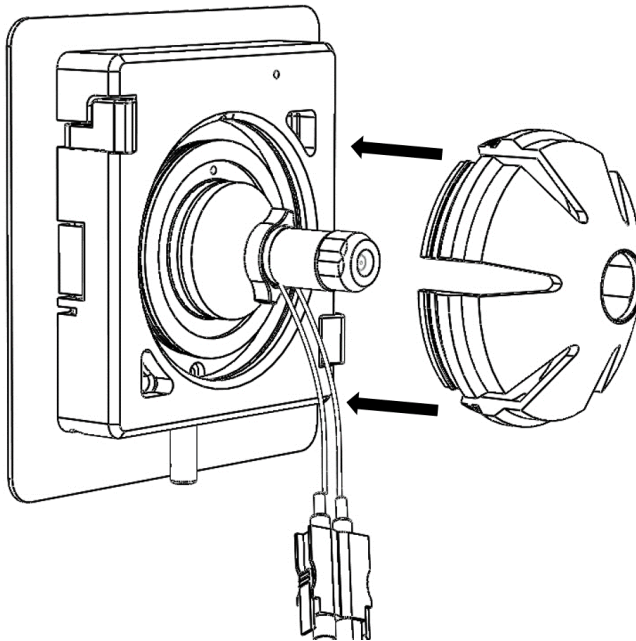

Figure 5: Installation of the SICRIT Safety cap onto the SICRIT Interlock.
- “Click” the SICRIT® Safety cap into the interlock and in the correct position as it is predefined by the design of the cap (Figure 5).